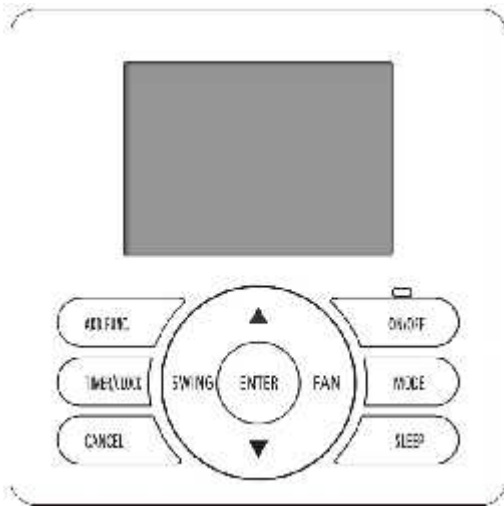
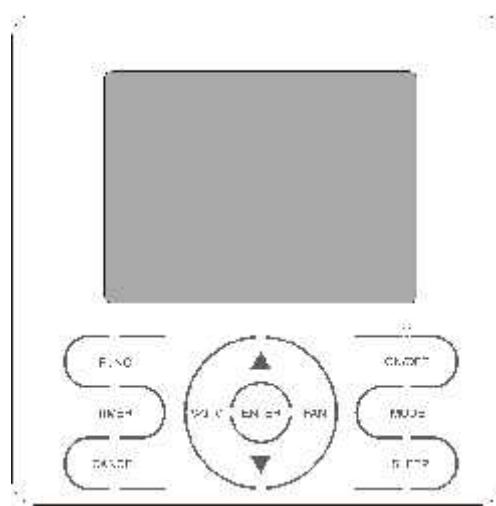

Fig.2 YXE-C01U/ YXE-C02U(E)
Fig.3 YXE-D01U(E)
Fig.2 short wiring
Fig.3 output line
Pins of the OUT INPUT CN16 socket shown in the electrical wiring diagram of Fig 1 are tacitly approved to be in short circuit state under the factory state (an external short circuit plug shown as Figure 2).
- 1) When using the room card control, the user cuts off the short wire shown in Figure 2 and connects the red lines to the control switch (supplied by user), and the connecting wire should be 22AWG or above specification. The switch is closed under normal conditions and off under abnormal conditions.
- 2) When using the fire protection , the user cuts off the short wire shown in Figure 2 and connects the White lines to the control switch (supplied by user), and the connecting wire should be 22AWG or above specification. The switch is closed under normal conditions and off under abnormal conditions.
- 3) When using the ON/OFF function, the user cuts off the short wire shown in Figure 2 and connects the White lines the ON/OFF control switch (supplied by user), and the connecting wire should be 22AWG or above specification. In normal conditions, the machine starts once the switch is closed and the machine shuts down once the switch is off.
Fig.2 short wiring (old)
Fig.3 main control board
Fig.2 short wiring (new)
3 pins of the OUT INPUT CN16 socket shown in the electrical wiring diagram of Figure 1 are tacitly approved to be in short circuit state under the factory state (an external short circuit plug shown as Figure 2), and the OUT INPUT CN16 socket of main control board is shown as Figure 3.
- 4) When using the room card control or fire protection, the user cuts off the short wire shown in Figure 2 and connects the red line and the black line to the control switch (supplied by user), and the connecting wire should be 22AWG or above specification. The switch is closed under normal conditions and off under abnormal conditions.
- 5) When using the ON/OFF function, the user cuts off the short wire shown in Figure 2 and connects the black line and the white line to the ON/OFF control switch (supplied by user), and the connecting wire should be 22AWG or above specification. In normal conditions, the machine starts once the switch is closed and the machine shuts